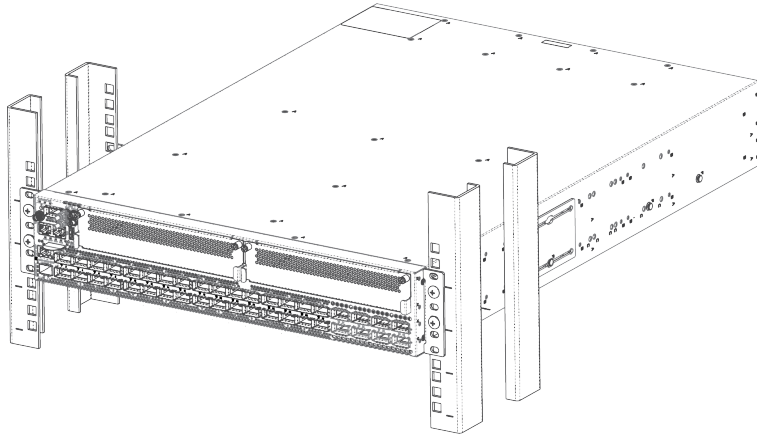

Figure 24: Flush-Mount: Attaching Short Mounting Brackets
- Figure 24 shows a flush-mount configuration using a short mounting bracket.